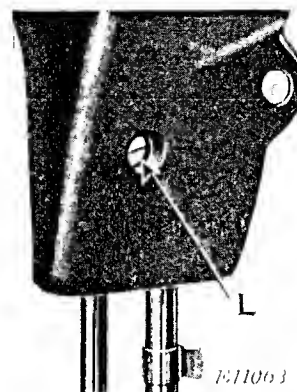
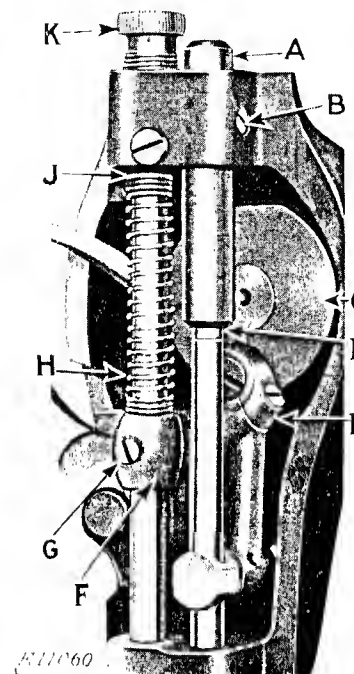

FIG. 20. SCREW TO ADJUST NEEDLE BAR HEIGHT
FIG. 21. NEEDLE BAR AT CORRECT HEIGHT
end of the needle bar bushing as shown by (D, Fig. 21). If this adjustment has been disturbed, turn the balance wheel over toward you to bring the set screw (L, Fig. 20) to a position where it is accessible through the hole at (I). Loosen screw (L) and have the needle bar connecting link (E) parallel with the needle bar when the thread take-up cam (C, Fig. 21) brings the upper end of the connecting link (E) to its lowest position as shown in Fig. 21. This is to obtain the lowest point in the needle bar action. Then set the needle bar with its **upper** timing mark just visible at the lower end of needle bar bushing as shown in Fig. 21. Tighten screw (L).
Remove needle clamp and thread guard from the needle bar. Loosen needle bar set screw (L, Fig. 20) and push the needle bar up and out through the needle bar bushing (A, Fig. 21) together with the needle bar oiling wick in the bushing. Remove the needle bar connecting link (E, Fig. 21) from the thread take-up cam (C, Fig. 21). Loosen needle bar bushing set screw (B, Fig. 21) and, using a suitable brass rod, drive the bushing (A, Fig. 21) downward and out from the machine arm.